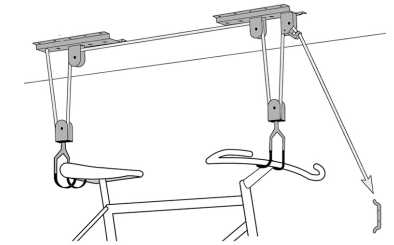

Fig. 1
Refer to Figure 1 during assembly.
4. Mount the single pulley bracket to the joist (see Fig. 1). The measurement mark is just behind the pulley. Secure with three screws through the remaining center holes.